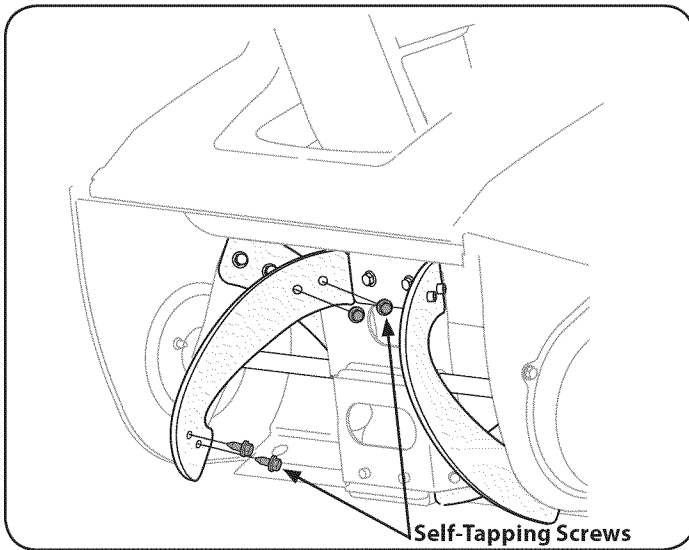

Figure 16
1. Remove the existing rubber paddles by unscrewing the self-tapping screws which secure them to the auger. See Figure 16.